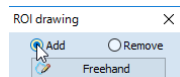

Figure 248 – Set Add/Remove mode for contour editing
2. Select the adding contour mode (see Figure 248). To add a drawn contour to the ROI, check the **Add** radio button. To remove a drawn contour from the ROI, check the **Remove** radio button.